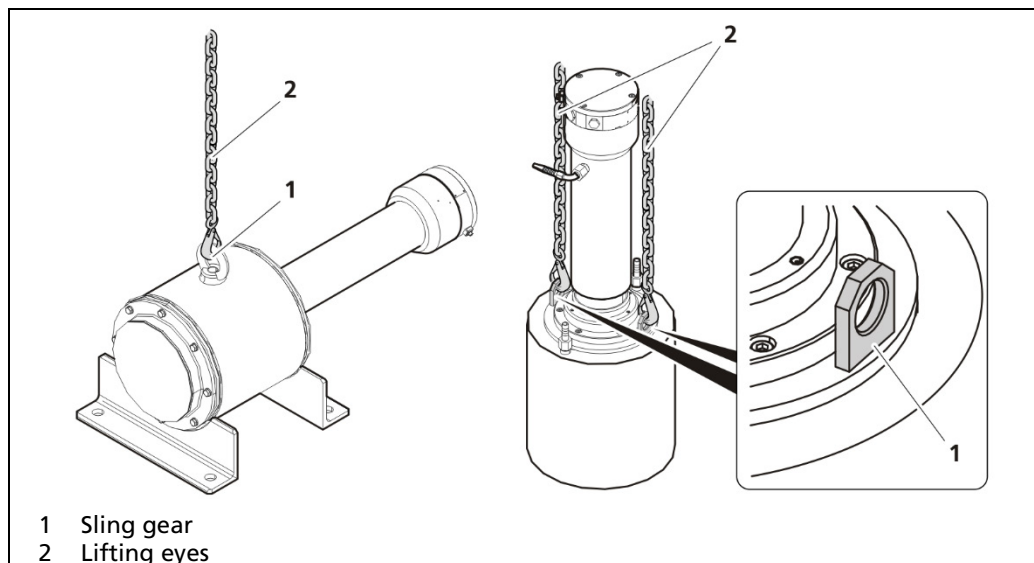

Fig. 5 Transport notes for SuperSENS Detectors
Since the SuperSENS variant detectors weigh ≥ 50 kg, they must be attached with sling gear (Fig. 5, item 1) using both lifting eyes (Fig. 5, item 2).